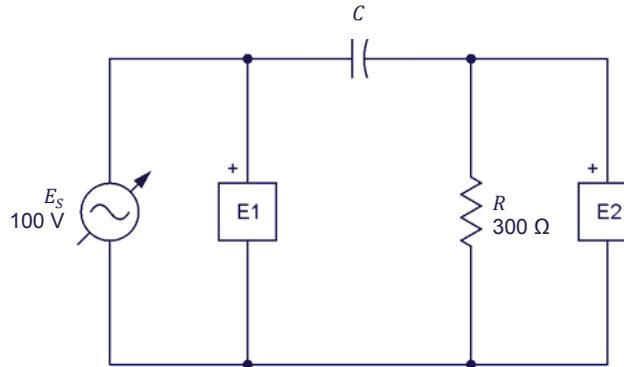

Figure 1-16. AC circuit with a resistor and a capacitor.
19. Modify the circuit so that it is as shown in Figure 1-16 (replace the inductor by a capacitor). This circuit contains a resistor  $R$  and a capacitor  $C$ . Capacitors are studied in the next unit of this manual.
The value of capacitor  $C$  in the circuit of Figure 1-16 is referred to as the capacitance and is expressed in microfarads ( $\mu\text{F}$ ). The capacitance value to be used depends on the frequency of the ac power source as is indicated in Table 1-3.